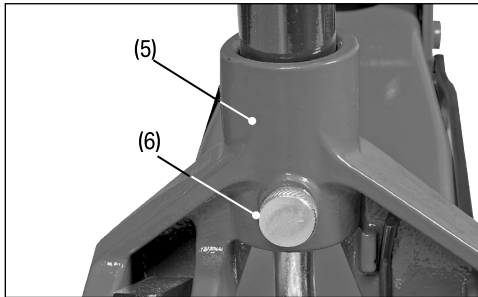

Fig. 2
- b. Insert the complete handle shaft into the handle socket (5) and secure using the locking bolt (6) (fig.2).